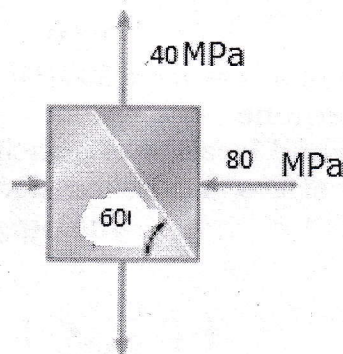

fig.9
- b) A plane-stress condition with  $\sigma_x = 80 \text{ MPa}$  &  $\sigma_y = 40 \text{ MPa}$  is shown in fig.9 Determine the normal stresses and shearing stresses acting on inclined plane at  $\alpha = 60^\circ$  [4]